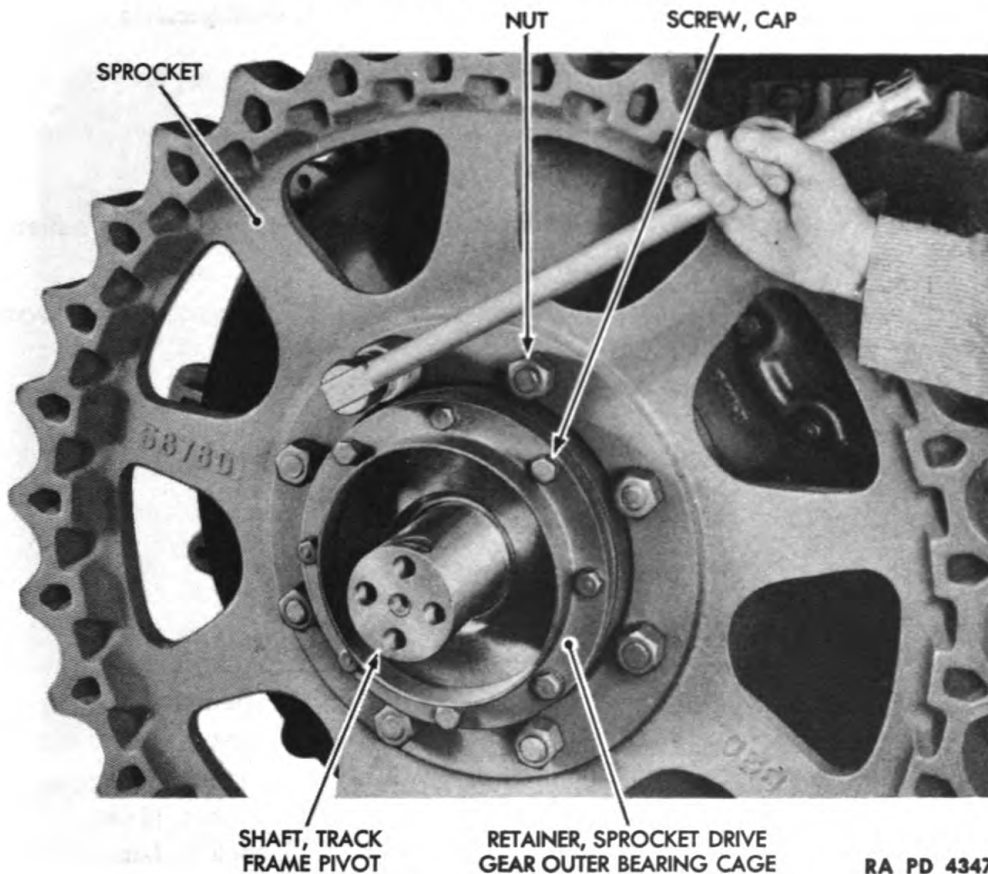

Figure 118 — Sprocket Removal
66. SPROCKET REMOVAL (fig. 118).
67. SPROCKET INSTALLATION (fig. 118).